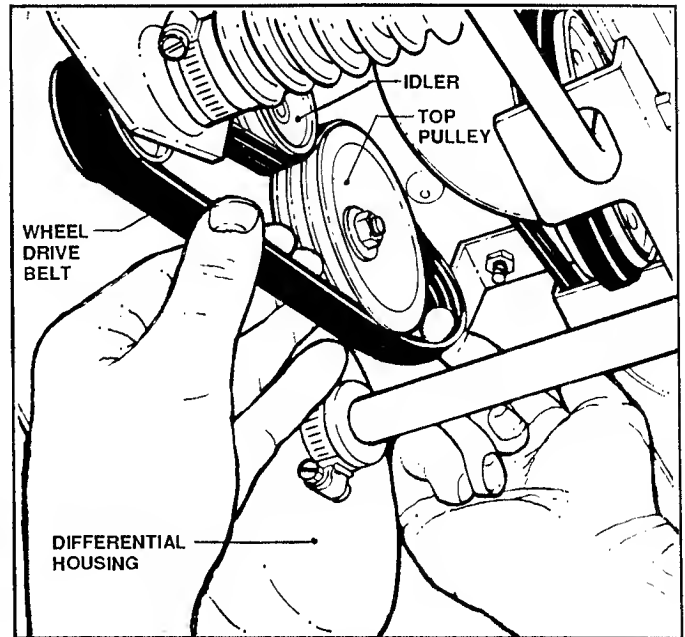
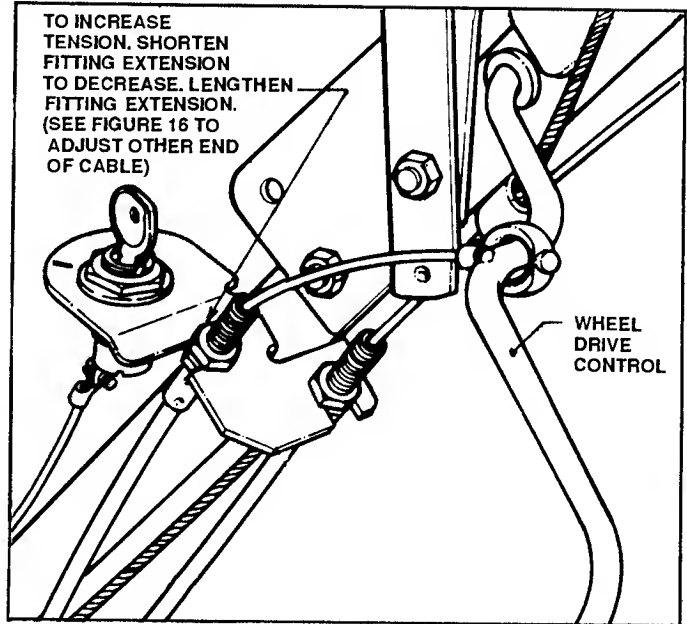

FIGURE 16
FIGURE 25
3. Work old drive belt off the top pulley. Pull idler down and twist old belt to remove. See Figure 16.
4. Reverse procedure to install replacement belt. Be sure to rehook idler spring and reinstall WHEEL DRIVE CONTROL cable. Refer to Figure 16.
WHEEL DRIVE CLUTCH ADJUSTMENT: If the wheel drive cable is too tight, clutch spring life will be shortened. If too loose, wheel drive belt slippage will occur and belt life will be shortened. When properly set, the wheel drive bail can be pulled up about 45 degrees toward the handle before spring tension is felt. This can be adjusted at either end of two fittings - one is the cable fitting on the ignition switch and the other is the fitting on the rear frame. (Refer to Figure 16). Shorten the fitting extension to tighten clutch force on belt. See Figure 25.